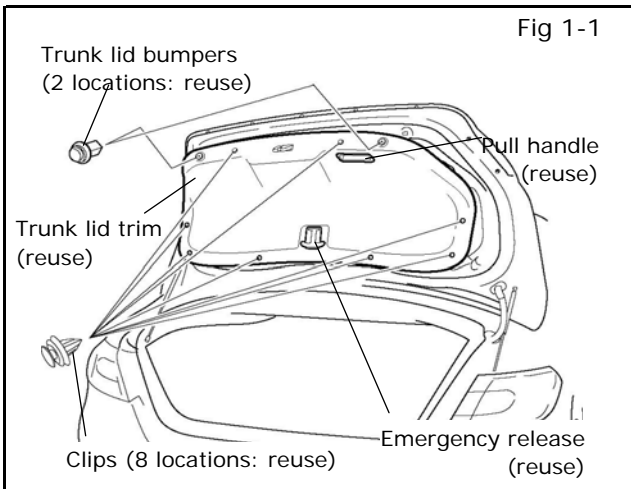

Fig 1-1
- 1) Open vehicle trunk lid and find the trunk lid bumper assemblies (RH/LH: 1 location each). See Fig.1-1.
- 3) Remove inner trim clips (8 locations; reuse), trunk lid bumper assembly (2 locations; reuse), Emergency release (1 location; reuse) and detach pull handle(1 location; reuse) from trunk lid with a clip remover. See Fig.1-1.